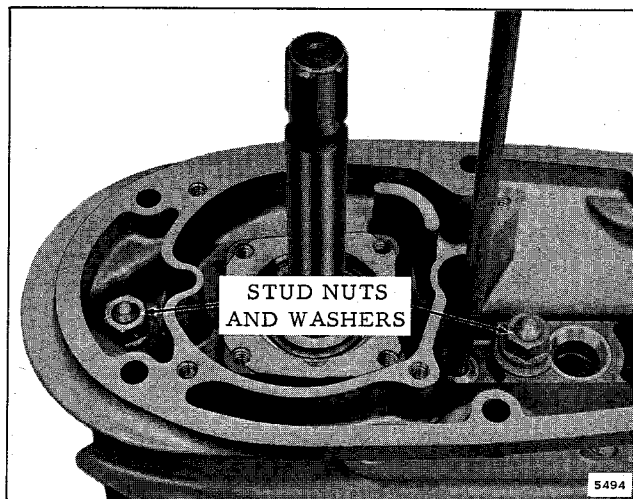

Figure 6-14. Gearcase Stud Nuts
d. Drain gearcase. Use a 9/16 inch deep socket to remove gearcase stud nuts. See Figure 6-14. Discard the nuts, since they are not to be re-used. These are self-locking nuts and lose their locking ability after being removed.